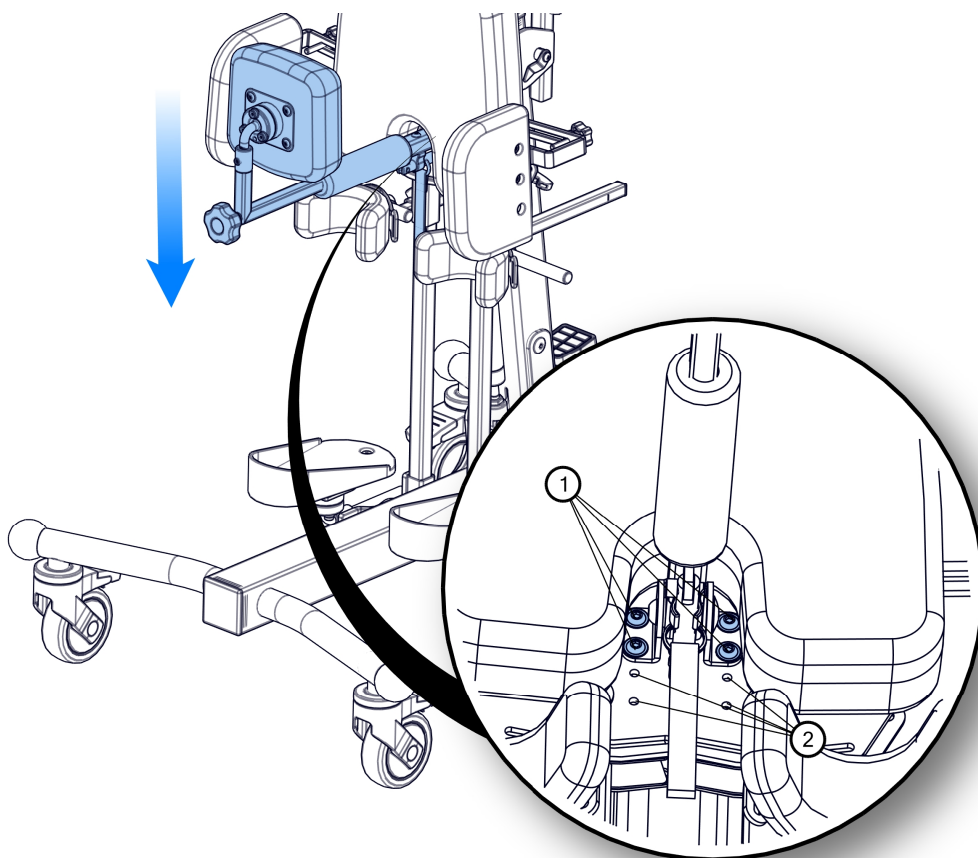

Fig. 8
The back support (Fig. 8) is also equipped with an additional height adjustment. To set the back support lower, unscrew the screws (1) and then fix the handle in the holes (2).